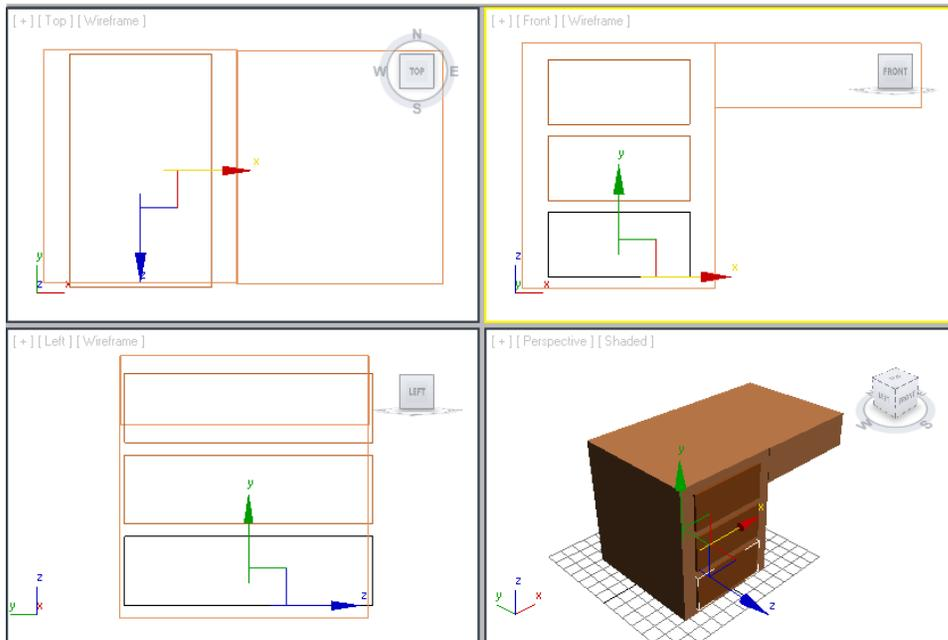

Figure 2-45 The *drawer002* and *drawer003* geometry created after cloning *drawer001*
2. Make sure the **Copy** radio button is selected in the **Object** area of the **Clone Options** dialog box. In the **Number of Copies** spinner, enter **2** to create two copies of *drawer001*. Then, choose the **OK** button; two drawers with same dimensions are created, as shown in Figure 2-45.